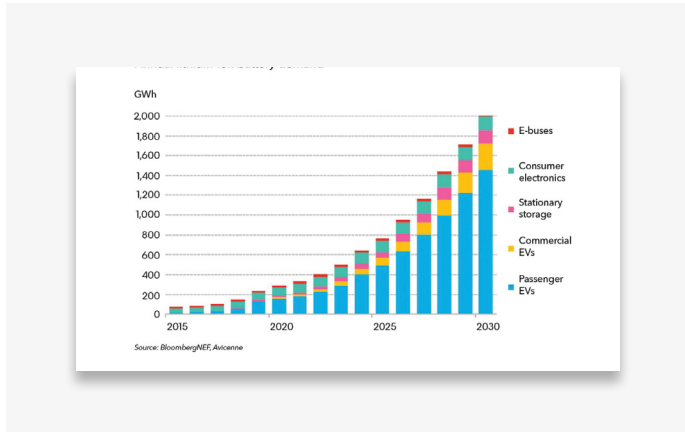
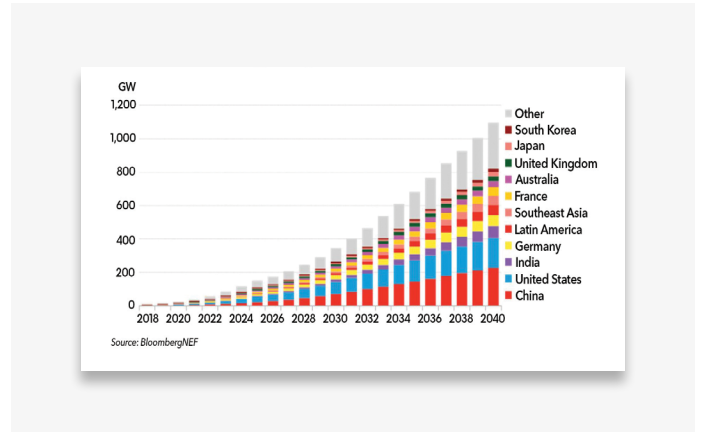

FIGURE 1
FIGURE 2
According to BloombergNEF, the battery market is expected to increase exponentially driven primarily by the electric vehicle (EV) industry (Figure 1) including electric trucks, buses and commercial vehicles. By 2030, the annual lithium-ion battery demand for EVs is estimated to surpass 1,748 GWh annually. As a result of decreasing battery costs, global energy storage installations are also expected to multiply exponentially from 9GW/17GWh deployed as of 2018 to 1,095GW/2,850GWh by 2040 (Figure 2).